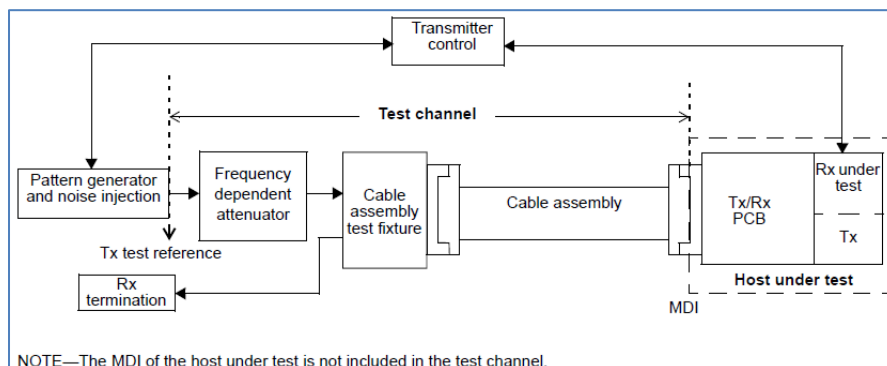

FIGURE 104. INTERFERENCE TOLERANCE TEST SETUP SCHEMATIC (REFERENCED FROM IEEE802.3CK STANDARD, FIGURE 110-3A)
2. Referring to Figure 104 below, allow the Rx equalizer value to automatically optimize or set sweep to determine the minimum BER result. Set the Tx (NEXT crosstalk) of the DUT to the **PRBS31Q** pattern, **Preset 0**, and Output **On**.